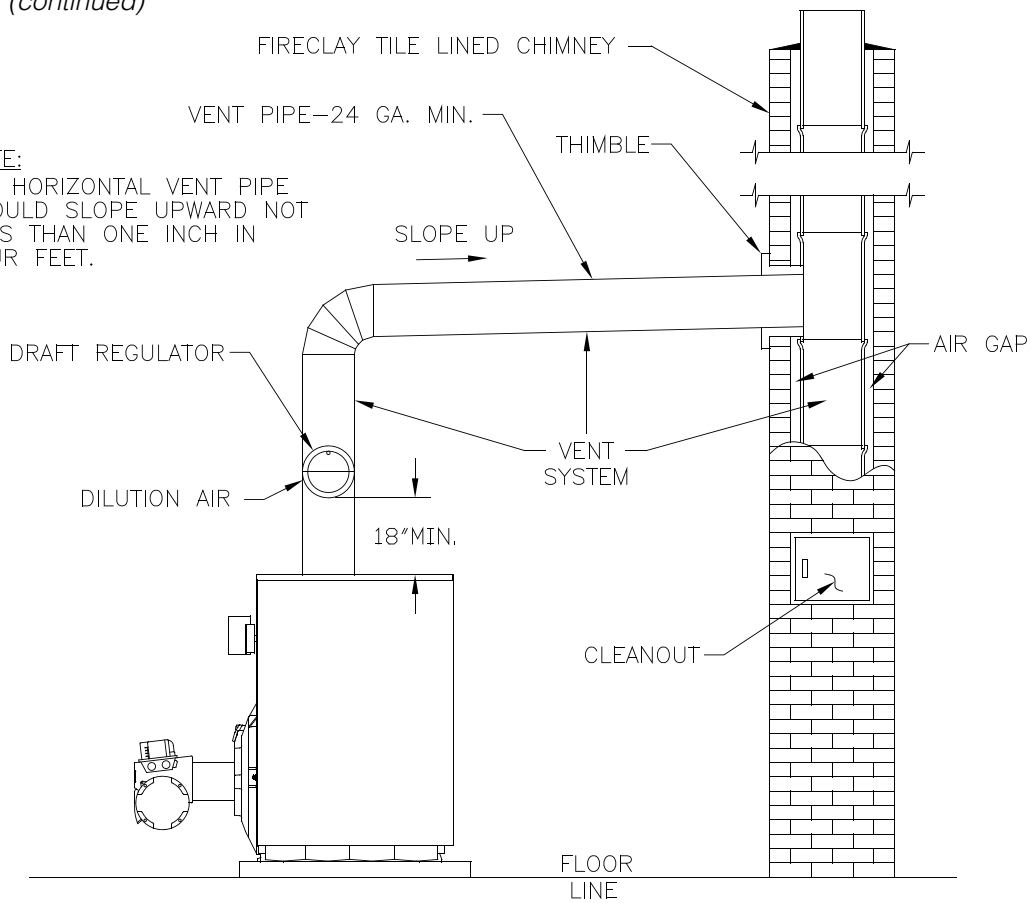

Figure 6-1: Recommended Vent Pipe Arrangement and Chimney Requirements
5. Draft Regulator – a draft regulator (supplied with the boiler) must be used. Refer to Figures 6-1 and 6-2.